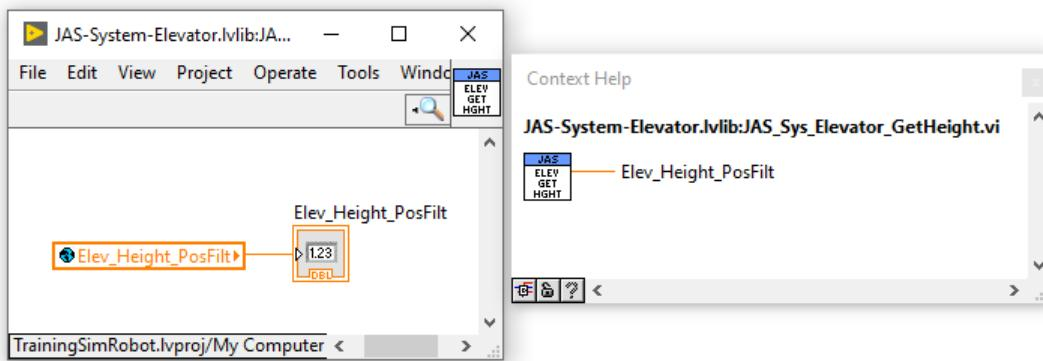

FIGURE 9.1 Sample global variable “get” value subVI.
- Create “get” subVIs as needed for your system. These read global variables and make their value available at the subVI’s output terminals. Fig. 9.1 shows a sample.